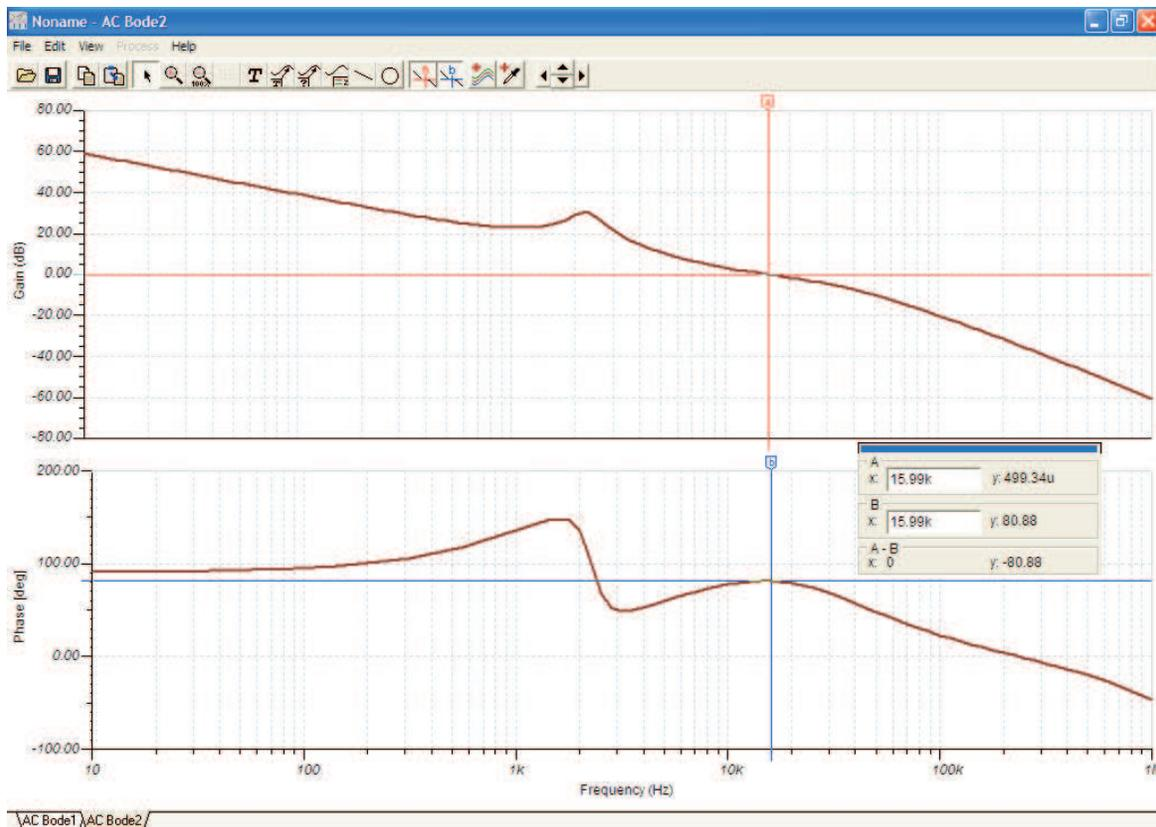

Figure 1. Calculating Phase Margin From a Frequency Response Plot
Phase margin (PM) is a measure of relative stability, in degrees, that indicates the likelihood of a closed-loop control system to oscillate when given a disturbance such as a step function. For systems with a negative angle phase response, the PM is the difference between -180° (due to the inverting nature of most amplifiers) and the phase angle of the frequency response at the same frequency where the magnitude response is 1 or 0 db. For systems with a positive phase response, the phase margin is merely the phase itself at the frequency where the magnitude response is 1 or 0 db. A positive PM technically yields a *stable system* whereas a negative PM yields an unstable system. However, a system with a 3° PM, for example, is not necessarily stable because practical factors make such a small degree of margin unreliable. Thus, a PM of about 45° is considered generally acceptable, but this can vary based on the designer's preference. This classic method of finding the phase margin can be observed in Figure 1.
As can be seen in the plot of Figure 1, an AC response, (Magnitude on top and Phase underneath), is given. The Magnitude Response plot is shown to be 0 db at 15.99 kHz. The phase at 15.99 kHz is 80.88° . Thus, the phase margin of this system is 80.88° .